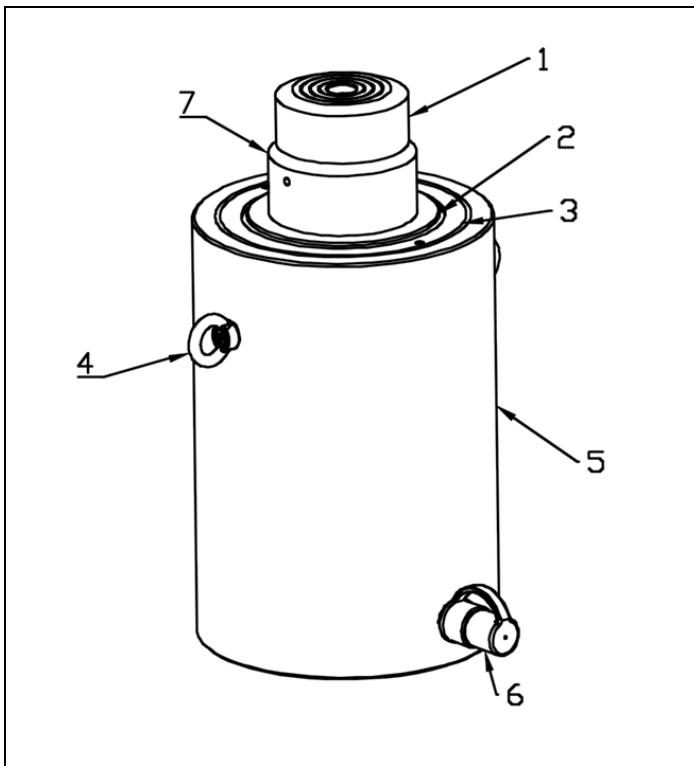

Figure 1, Major Features and Components, RT-Series Hydraulic Cylinders (Typical)
Refer to Figure 1, item 6 for location.